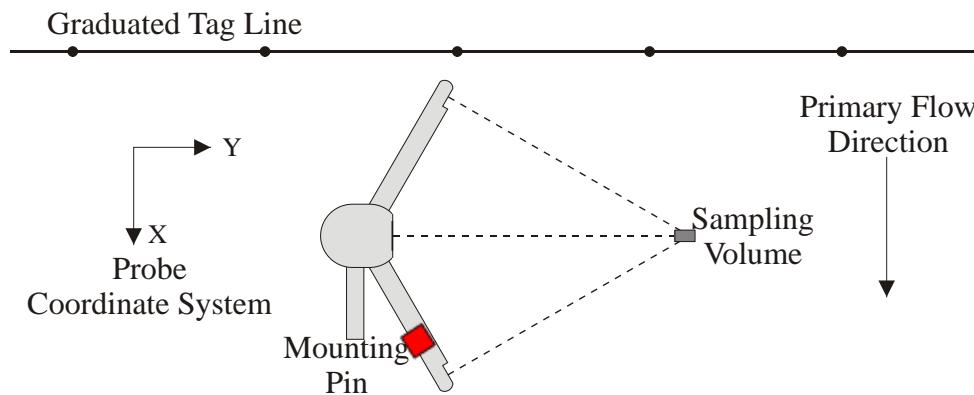

Figure 4:8 - FlowTracker2 Coordinate System
- c) The FlowTracker2 Probe Coordinate System is outlined in Figure 4:8.